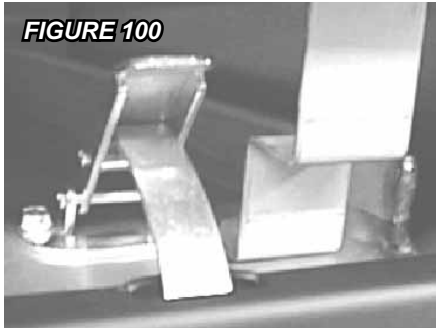

FIGURE 100
5. Remove the 7 perimeter screws as illustrated in Fig. 100 and lift out the burner base. (The gas line flex-connector should provide sufficient movement to permit shifting the burner assembly to the side)